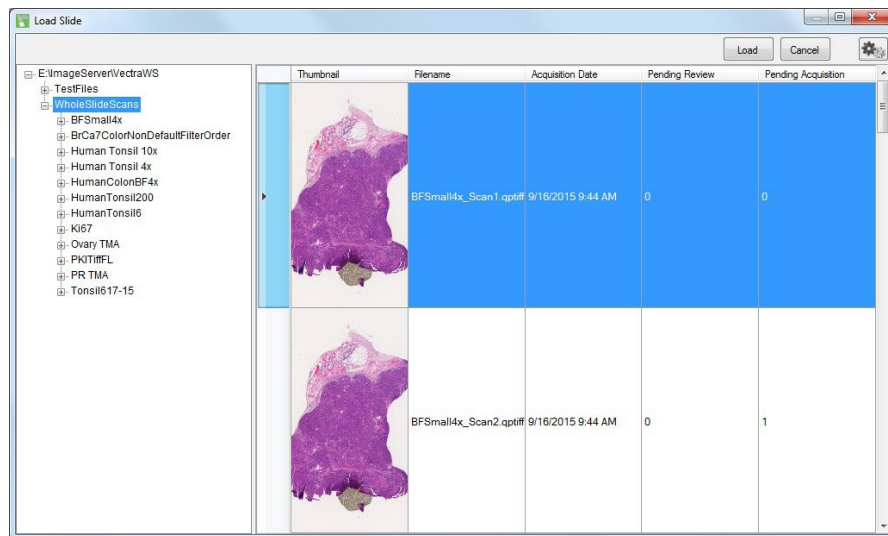

Figure 2.1. Slide Browser.
1. Click the Load Slide button in the upper left to bring up the Slide Browser. (See Figure 2.1.)